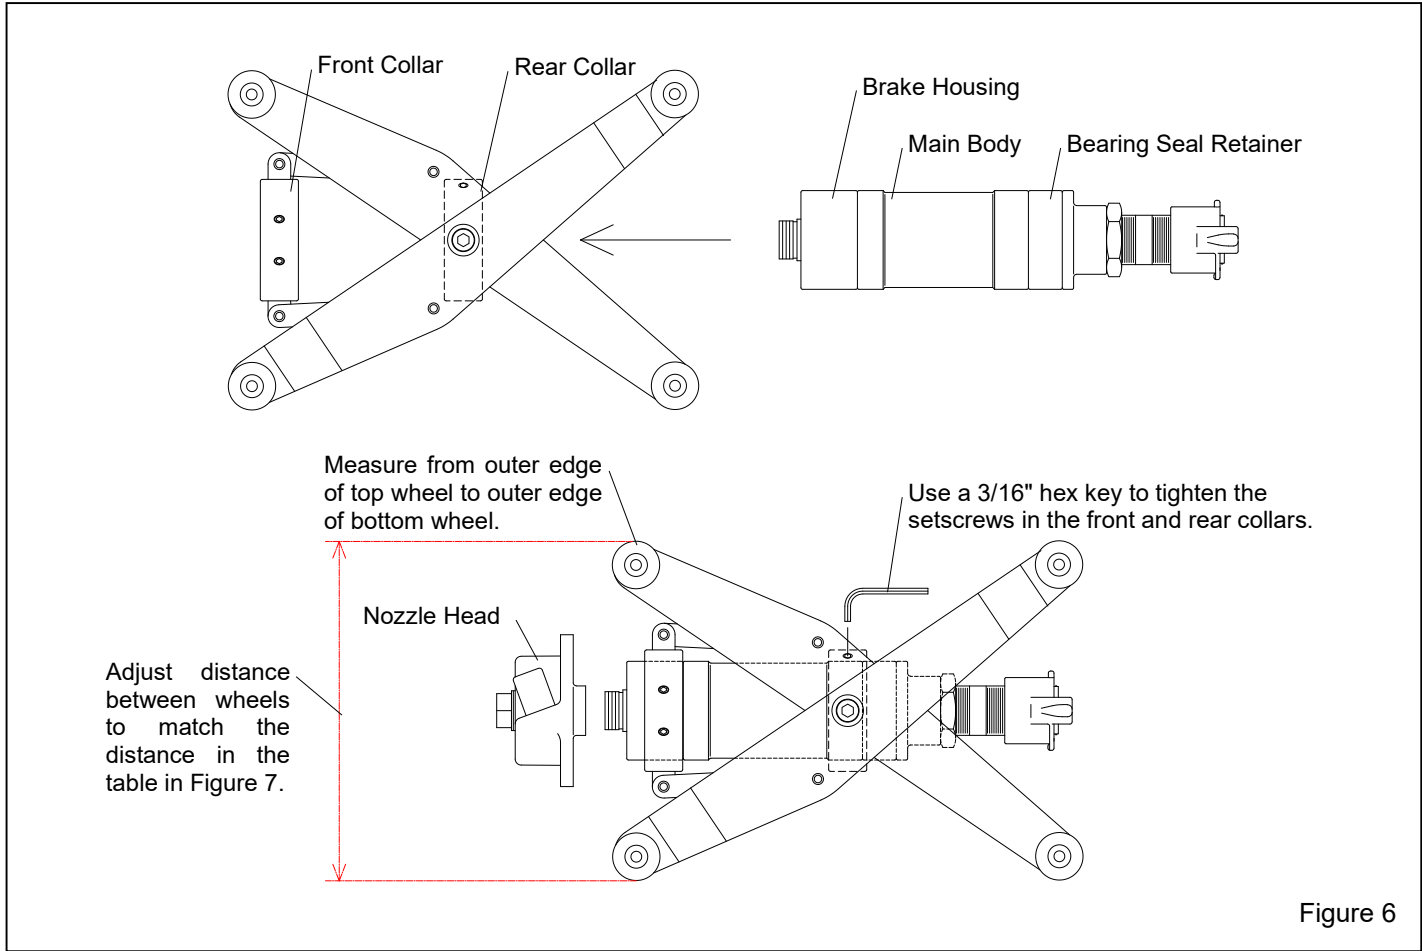

Figure 6
### 5.1 8" to 17" Small Adjustable Centering Carriage Figure 6
**5.1.2** Remove the nozzle head, per Section 6.3, and insert the tool through the back of the carriage, as shown in upper illustration in Figure 6, guiding the brake housing through the rear collar and then the front until the housing extends about 1/2" past the front collar.
**5.1.3.2** Refer to the lower illustration in Figure 6, which show from which points on the carriage the DISTANCE BETWEEN WHEELS measurements is taken.
PIPE ID	DISTANCE BETWEEN WHEELS, AS SHOWN IN FIGURE 6.